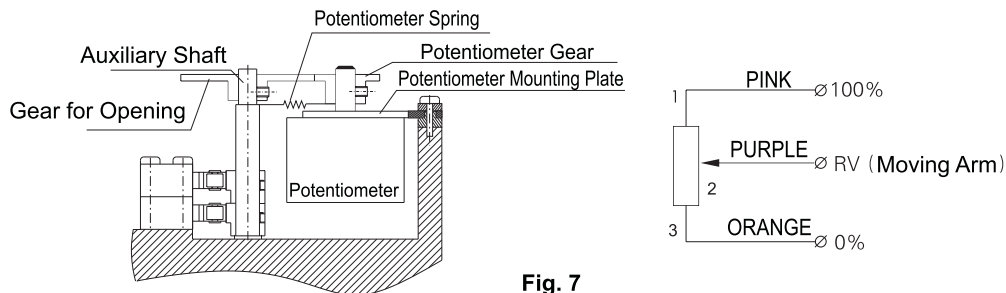

Fig. 7
### 3. Adjustment of potentiometer (Fig. 7) Suitable for Type C and Type D
- ① Drive the actuator to the intermediate position by crank, making the indicator indicating 50% of the scale.
- ② Measure the resistance at the initial end and terminal end of the potentiometer by means of universal meter (Resistance between pin 1 and pin 3 of the potentiometer), refer to Fig. 7. Write down the R value (If no special requirement, the factory had set it to  $1k\ \Omega \pm 15\%$ ).
- ③ Apply appropriate force to the potentiometer mounting plate, making the gear for opening being disengaged from the gear of potentiometer.
- ④ Connect the universal meter, one end to the moving arm of the potentiometer (Pin 2) and another end to any pin of the potentiometer. Slowly turn the gear of potentiometer and observe the reading of the universal meter. When the resistance is  $R/2 \pm 2\ \Omega$ , stop the adjustment and cancel the force on the mounting plate, making the gear for opening be engaged with the gear of potentiometer.